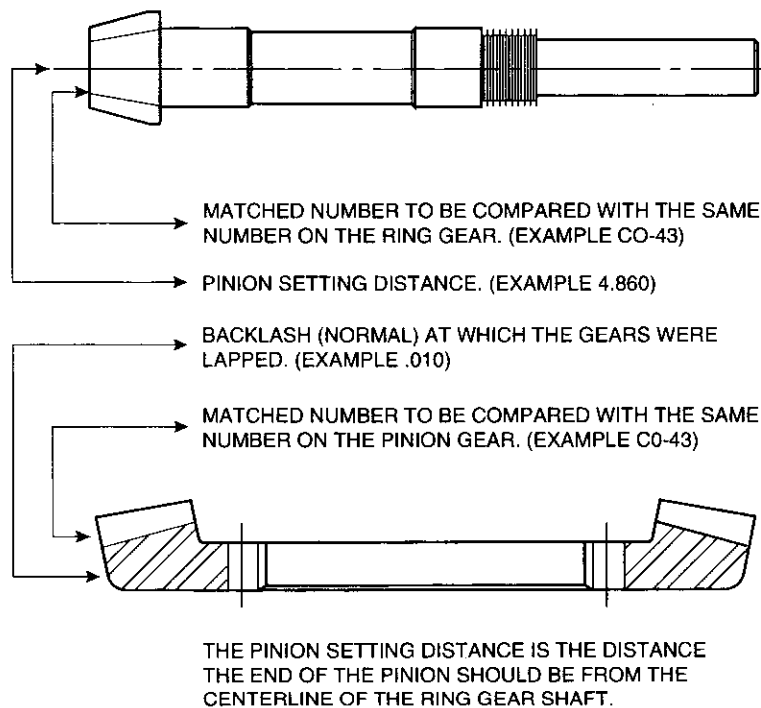

Figure 4 Gear Match Numbers and Setting Data
Note—The thickness of the shim pack (320) is important in resetting the gears. The shim pack should either be saved or carefully measured with a micrometer. If the gears are to be replaced, record the pinion setting distance that is etched on the pinion gear. See **Figure 4**.
4. Remove bearing retainer and shim pack (420) from top of case.
Before assembling a new pinion gear in the pinion cage, check match numbers on pinion gear and spiral bevel ring gear to be certain that they are a matched set. Gears are lapped in matched sets at the factory and should not be separated. Numbers are etched on both the pinion and ring gear as illustrated in **Figure 4**.
1. Place oil slinger (301) on pinion shaft.
2. Press head bearing cone (311) on pinion shaft making sure oil slinger and bearing are against gear.
5. Press tail bearing cone (312) on pinion shaft until it mates with its bearing cup.
7. Install O-ring (503) in groove on pinion cage.
10. Record the pinion setting distance that is etched on the pinion gear. See **Figure 4**.